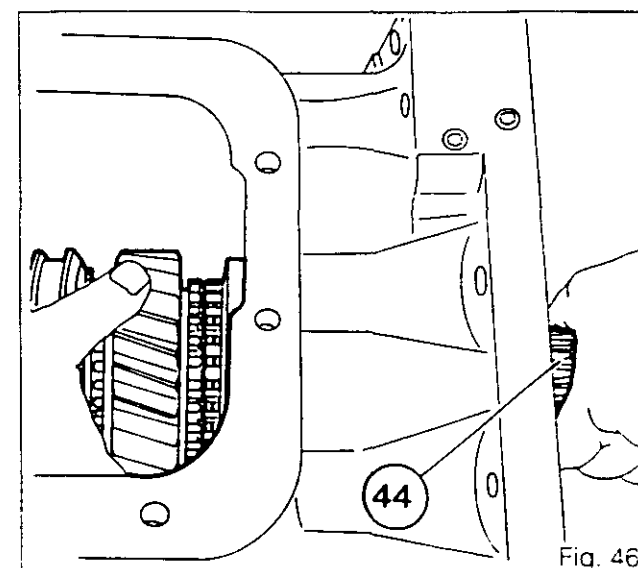

Fig. 46
**Note: If the bush (35) is worn, replace the gear assembly (because the bush is bored out after it has been fitted).**
**If the combined bearings (30) and (28) are worn, replace the gear assembly (it is factory fitted).**
158. Engage the input shaft (44) retaining the gear train assembly (Fig.46).